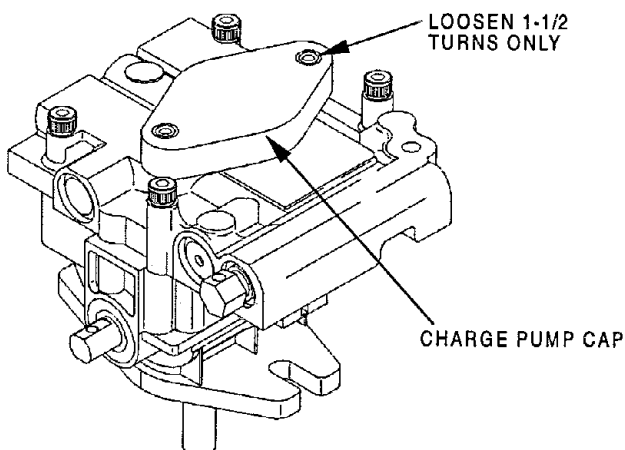

FIG. 10
- g) If either drive wheel does not rotate, one or both of the charge pumps (located on the top of the main pump as shown in Figure 10) may have lost their "prime". Refer to Section 5.1.10.
The critical area for purging air from the hydraulic system is between the oil reservoir and each charge pump located on the top of each variable displacement pump. (See Figure 10).
- e) To "prime" charge pump, loosen two hex socket head capscrews (shown in Figure 10) **1-1/2 turns only. Make sure engine is not running.** Lift charge pump housing upward and wait for a steady flow of oil to flow out from under housing. **Retighten capscrews.** Do this for both pumps. Note: Hydraulic reservoir can be pressurized to up to 5 psi to speed this process.